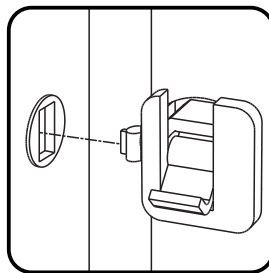

Figure 2
Attach Back Rail (GN) to Side Panel (C), then flip Locks. (See Figures 2 and 3)